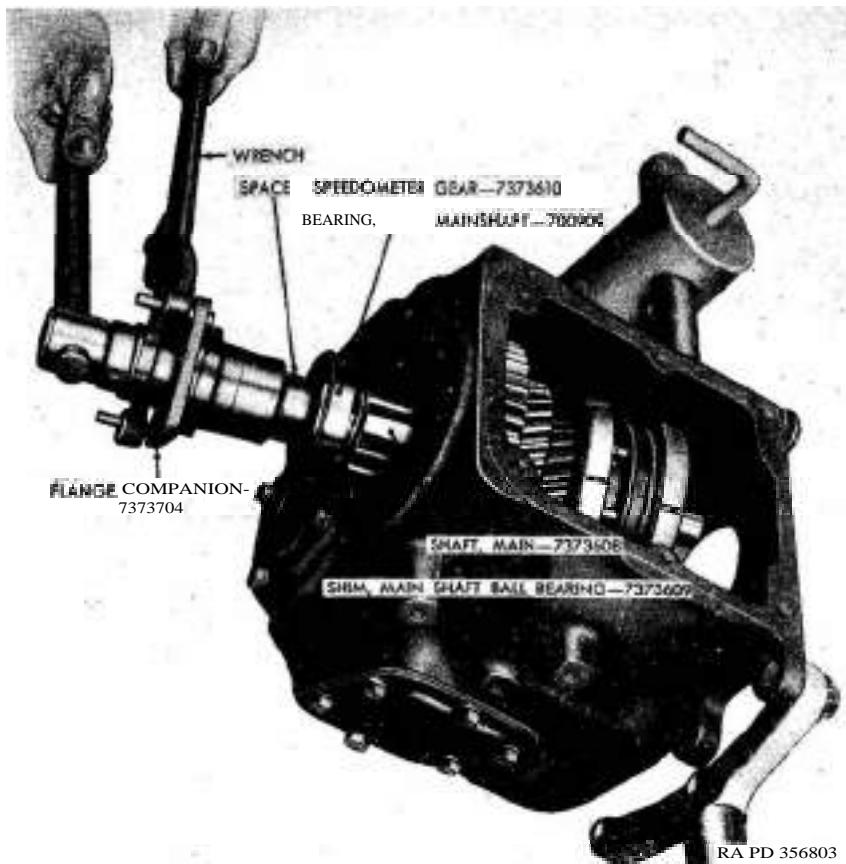

Figure 116. Installing main shaft ball bearing and holding companion flange with wrench.
flange plain washer (NN), and companion flange nut (PP). Hold companion flange and tighten companion flange nut (fig. 116) until ball bearing is firmly seated against shim and shaft shoulder.